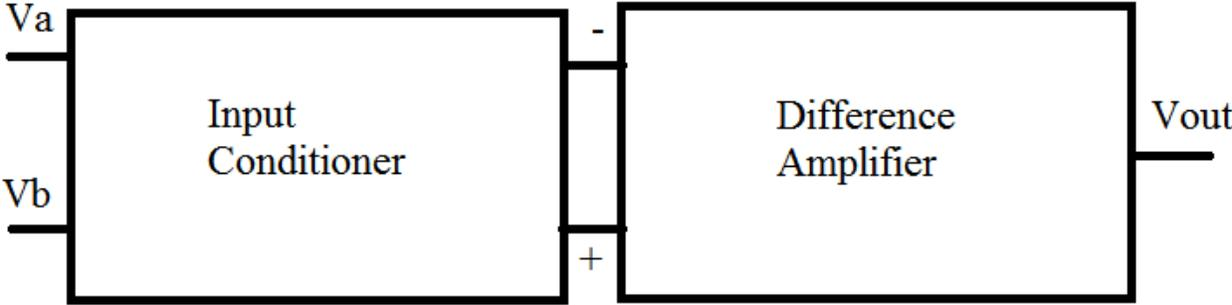

Figure 2: Block Diagram of ECG amplifier
- II. Simulate the circuit in Figure 2 on ADS and make sure that your values calculated above generate indeed a gain of 1000.
- III. Wire the circuit of Figure 2. To test your circuit, hook the positive pin of your function generator in Va and the negative pin of the function generator in Vb. Your input signal should be a 60 Hz sine wave of 5 mV peak-to-peak.